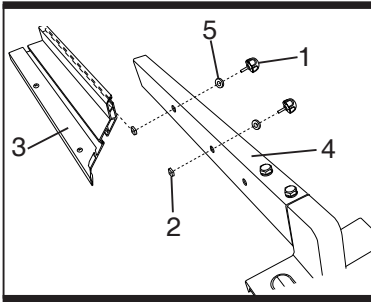

Fig 9
- 1) Attach the square nuts to the rip fence with the clamp handles (1) through the washers (5) and holes in the rip fence.
- 2) Slide the auxiliary fence (3) to the square nuts (2).
- 3) Tighten the clamp handles (See fig. 9).